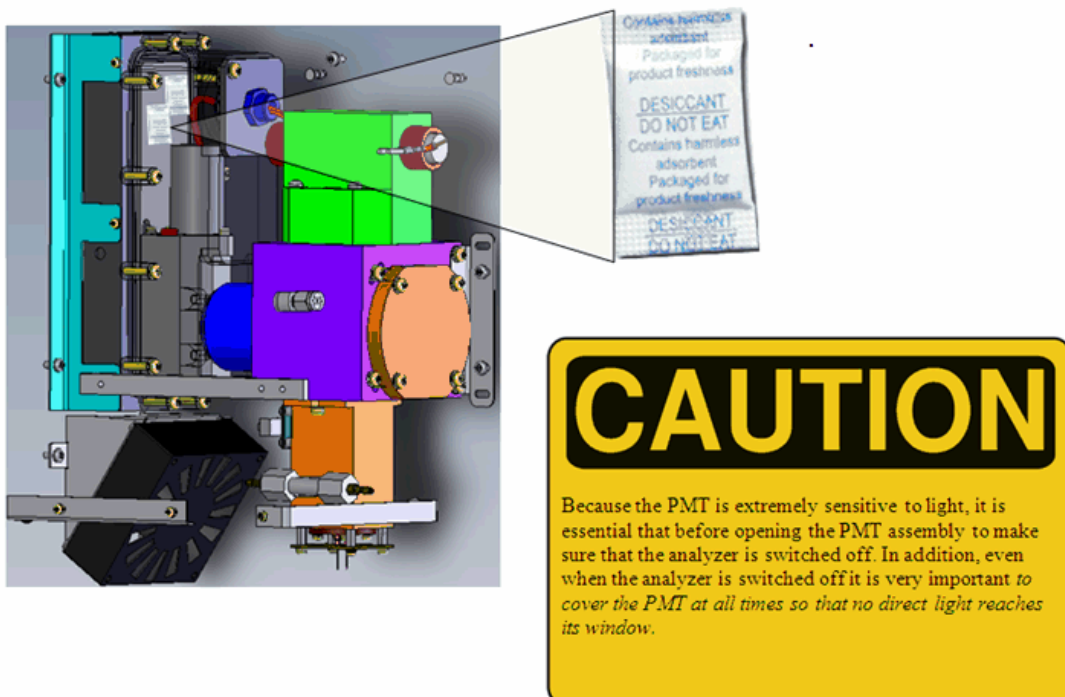

Figure 22 Position of desiccant packs
3. Remove the old desiccant packs and replace with new (see Figure 22). Do not attempt to dry and reuse the old packs.